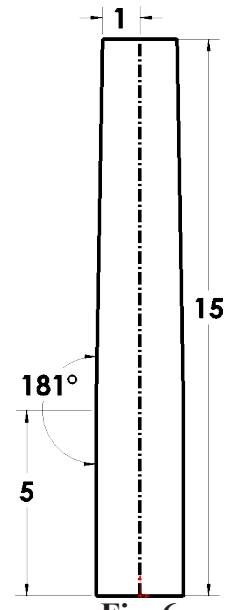

Fig. 6
Step 2. Click **Mirror Entities**  on the Sketch toolbar, **Fig. 6**.